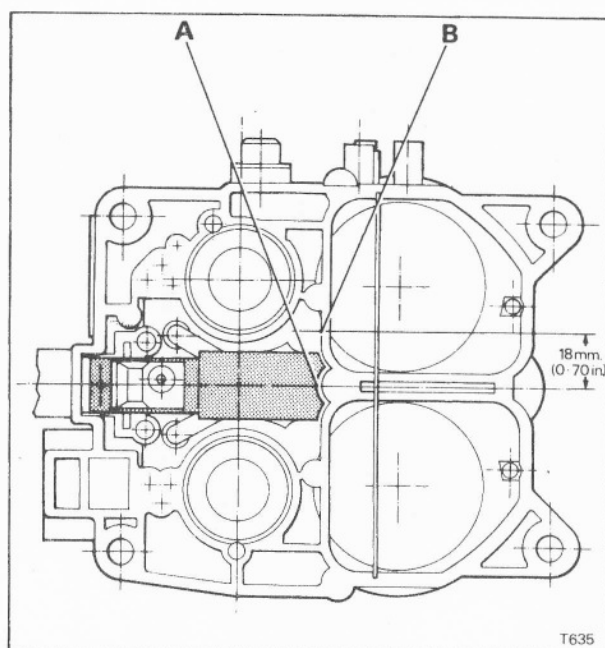
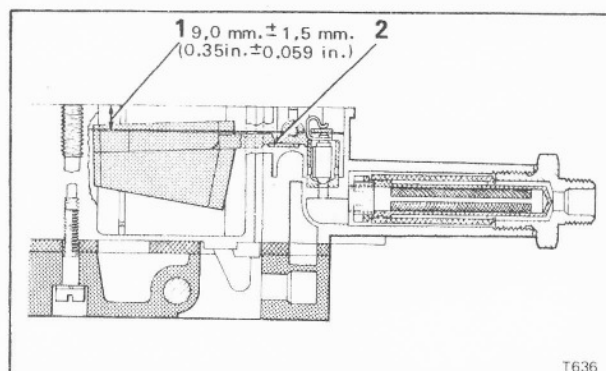

Fig. K70 Checking the float position
Fig. K71 Checking the float chamber fuel level
3. Ensure that the top face of the float is between 3,0 mm. and 4,0 mm. (0.118 in. and 0.157 in.) below the joint face of the float chamber when measured at point A in Figure K70.
4. This setting can be adjusted by carefully bending the float lever at the point shown in Figure K71.
The level of fuel in the float chamber should be as shown in Figure K71. The measurement should be taken with the float chamber cover removed and the float toggle spindle prevented from becoming buoyant.
8. Check that the fuel level is 9,0 mm. ± 1,5 mm. (0.35 in. ± 0.059 in.) below the joint face (see Fig. K71) when measured at a distance of 18 mm. (0.70 in.) from the centre line of the float (see Fig. K70).
9. To correct the fuel level it is permissible to carefully bend the float lever at the point shown in Figure K71.